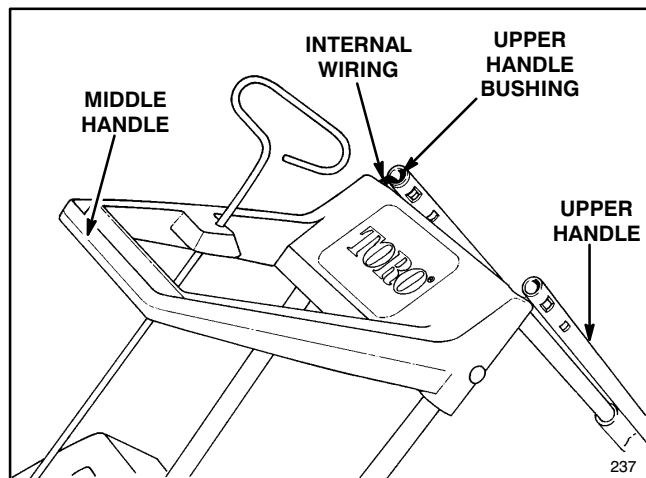

Figure 1
- Thoroughly inspect the open internal wiring before assembling snowthrower (Fig. 1).
1. Stand snowthrower upright and position upper handle in inverted position to prepare for handle assembly (Fig. 1). Inspect the open internal wiring for damage.
Note: Do not remove bushing from upper handle tube (Fig. 1).